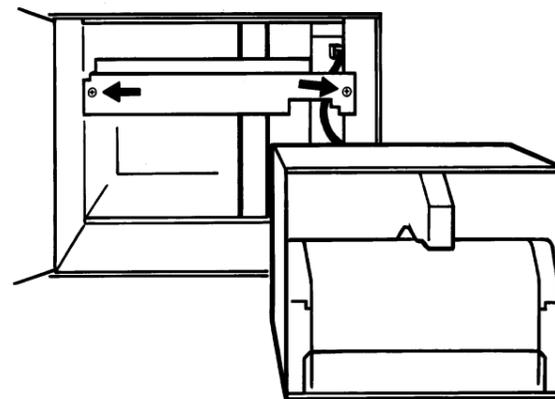

Figure 4 Remove card retainer
3. Remove the card retainer by removing the two securing screws (figure 4).